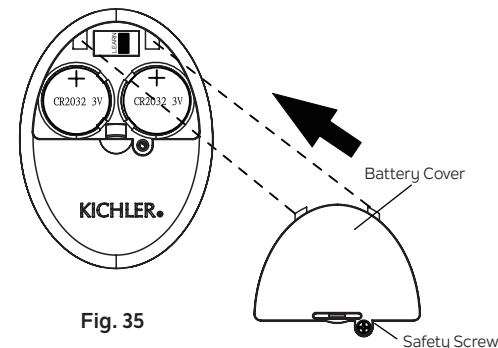

Fig. 35
Reinstall the battery cover to the back of the transmitter and tighten the safety screw. (Fig. 35)
Step 3. Reinstall the battery cover and safety screw to the back of the transmitter and tighten the safety screw. (Fig. 35)
Step 3. Reinstall the battery cover to the back of the transmitter and tighten the safety screw. **(Fig. 35)**